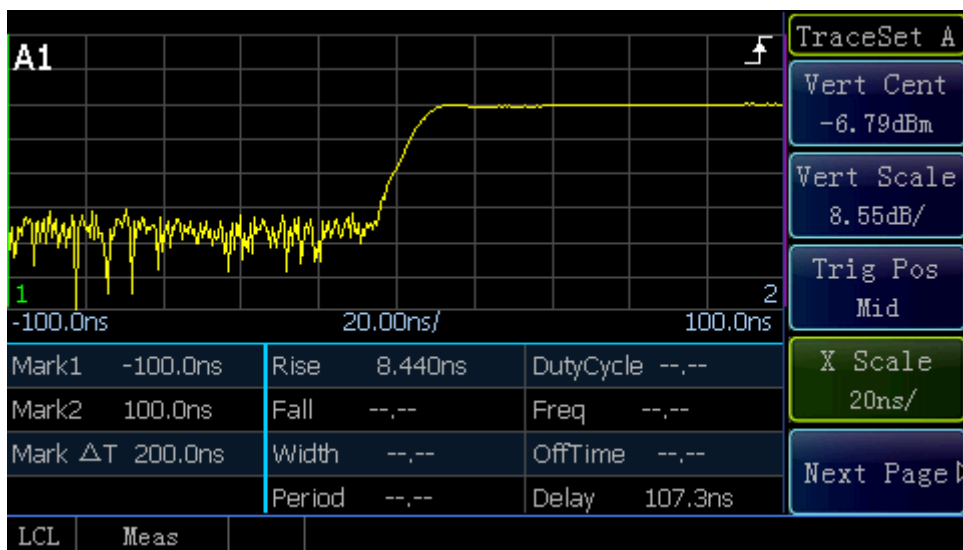

Fig. 4.4 Rise time Test
- 8) Set [Trace Set] >[X Scale] >[20ns/] to obtain the Rise time of pulse signal as shown in Fig. 4.4;